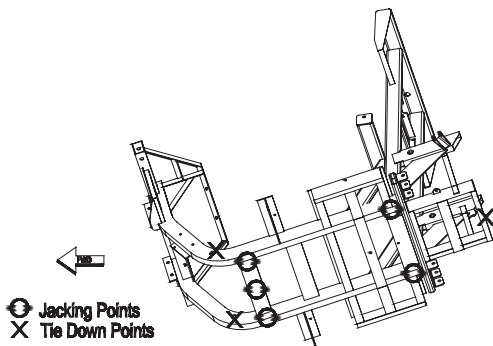

Figure 24 - Jacking and Tie Down Points
- Jack the vehicle only from the side of the vehicle, on the main frame rail, at the point where the tub or floor panel support and the main frame rail are welded (See page 97, Figure 24). Alternative locations include the rear frame rail and the center of the front cross member.